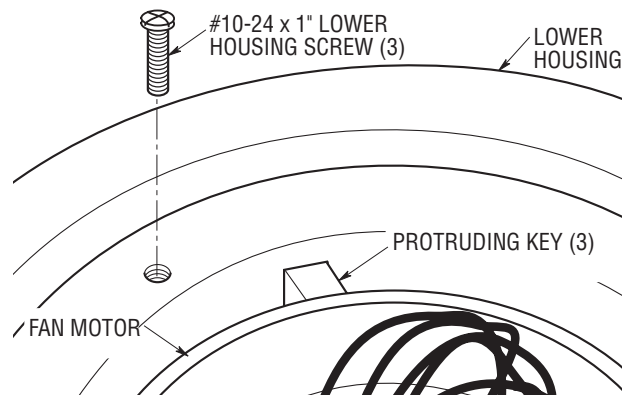

Figure 2
- 3. Install the lower housing onto the fan motor by orientating the three protruding keys into the slots on the lower housing to secure. Fasten the lower housing onto the fan motor using the three #10-24 x 1" lower housing screws (Figure 2).
It is critical that the clevis pin in the motor coupling is properly installed and the setscrew is securely tightened. Failure to verify that the pin and setscrew are properly installed (as shown in Figure 2) could result in the fan falling.